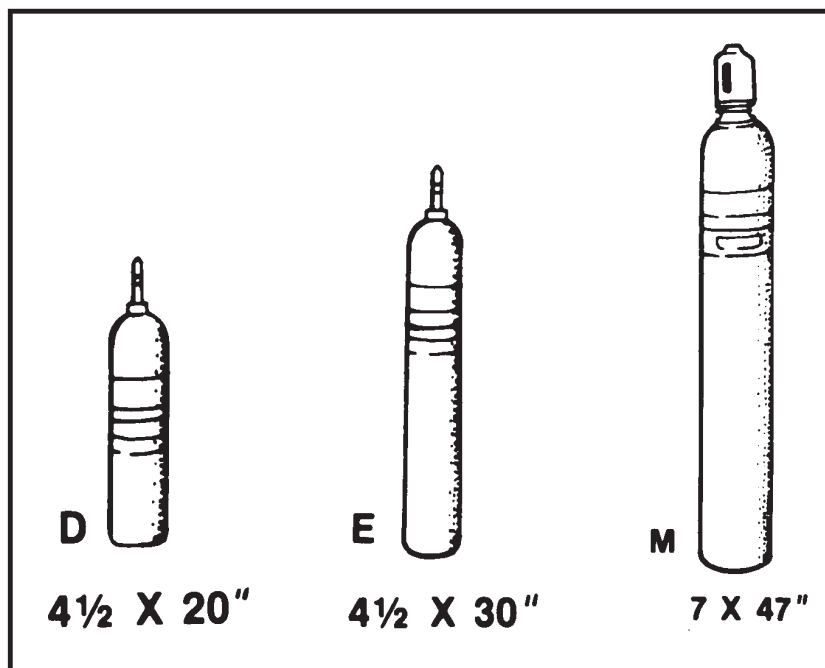

Figure 3-2 . Oxygen cylinder
- a. Oxygen cylinder. (See Figure 3-2.)